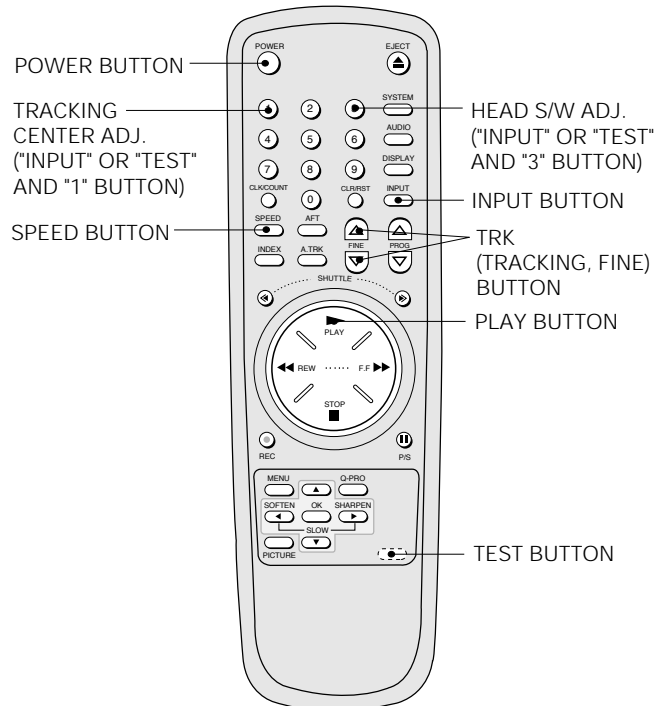

Fig. 5-2 Remote Control Ass'y for "C" Chassis
2. Normal remote control ass'y for X-7/X-8 (DX7-R/DX7-RC/DX8-R/DX8-RC) chassis ("IS" chassis and "C" chassis). (See Fig. 5-2 and 5-3)